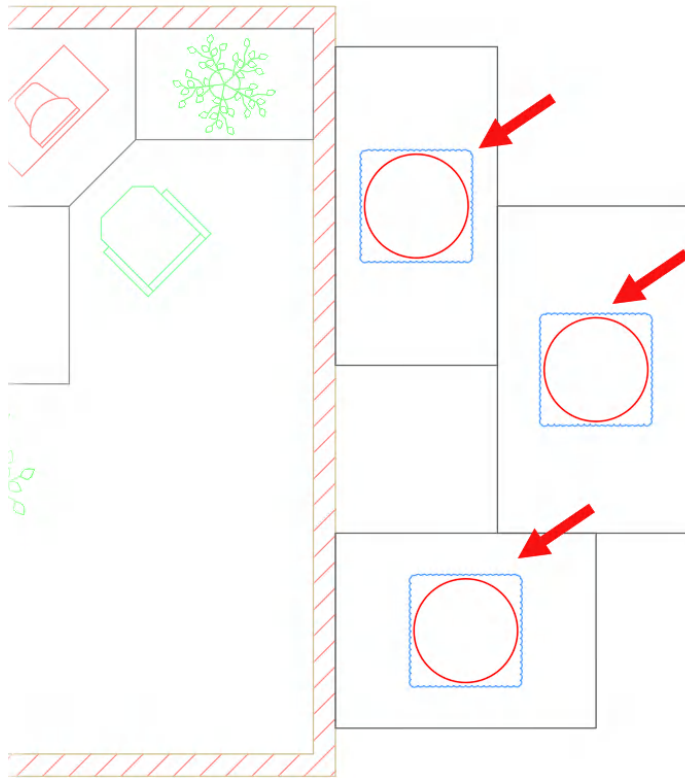

Figure 14.24: The compared differences highlighted by blue comparison clouds
- The Xref Compare interface is the same as the DWG Compare interface. When comparing the attached Xref file, `Landscaping_REV1.dwg`, to the other DWG file, `Landscaping_REV2.dwg`, the blue comparison clouds (as set in **Settings** in the previous section) highlight the differences between the two files, as shown in *Figure 14.24*.